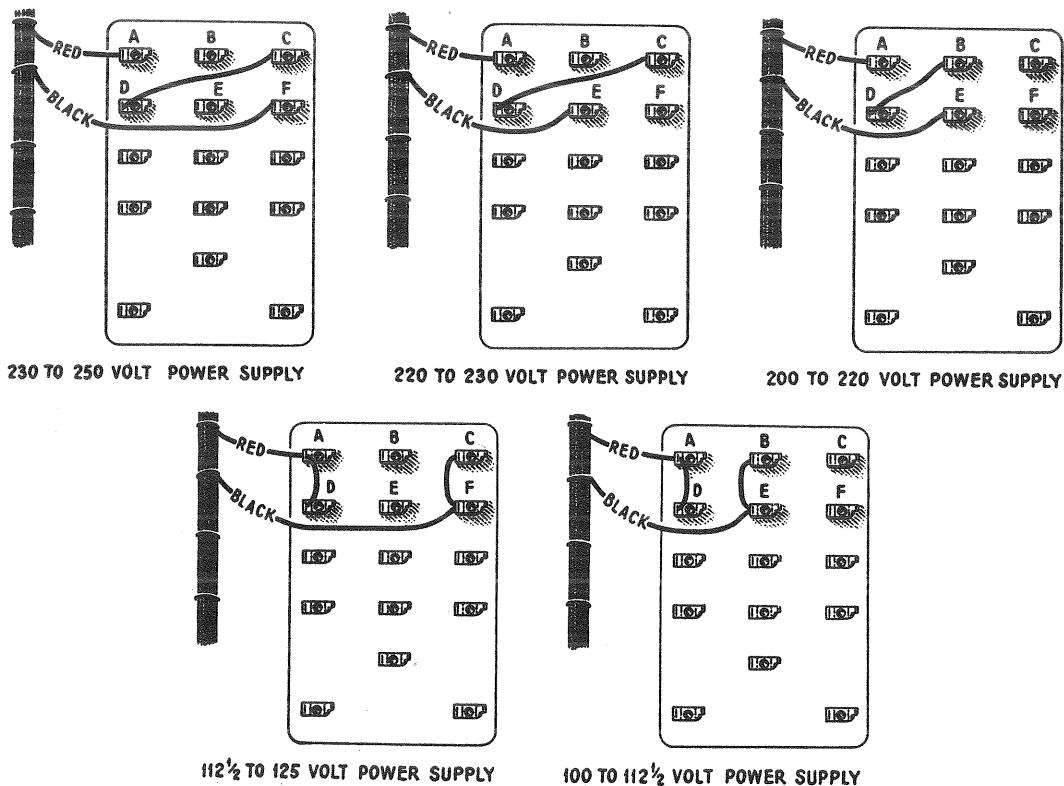

Figure 2—Connections to Primary of Power Transformer for different line voltages
- (6) **Radio Input Jack.** A jack is provided for connecting the output of the first audio stage of an external receiver to the power amplifier.
- (7) **Cable.** Connected to the "Radio-Record" switch and the radio input jack is a braided cable. One end of this cable has a four-terminal strip for connecting to the S.P.U. terminal board.
- (8) **Cables.** Three additional two-wire cables are provided. These are for connecting the pick-up to the volume control, the volume control to the S.P.U., and the cone coil of the reproducer unit to the S.P.U.
- (9) **Switch.** A single-pole, single-throw, tumbler-type switch is provided for connecting in series with the input A.C. circuit for complete control of the installation.
- (10) **Power Transformer Instruction Tag.** A tag is provided that shows the correct connections for the power transformer for various line voltages. These connections are also shown in Figure 2.
Figure 2 shows the terminals of the power transformer and the correct connection for various line voltages. It is important that the line voltage be measured and the transformer connections changed accordingly. Otherwise damage to the various parts and tubes may result.